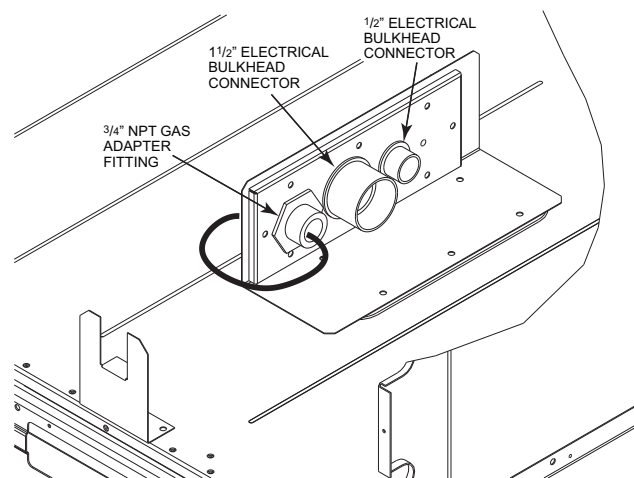

Fig. 20 — Thru-the-Base Option, Shipping Position
This service connection kit consists of a 3/4-in. NPT gas adapter fitting (stainless steel), a 1/2-in. electrical bulkhead connector and a 1 1/2-in. electrical bulkhead connector, connected to an "L" bracket covering the embossed (raised) section of the unit basepan in the condenser section. See Fig. 20.
1. Remove the "L" bracket assembly from the unit (see Fig. 20).